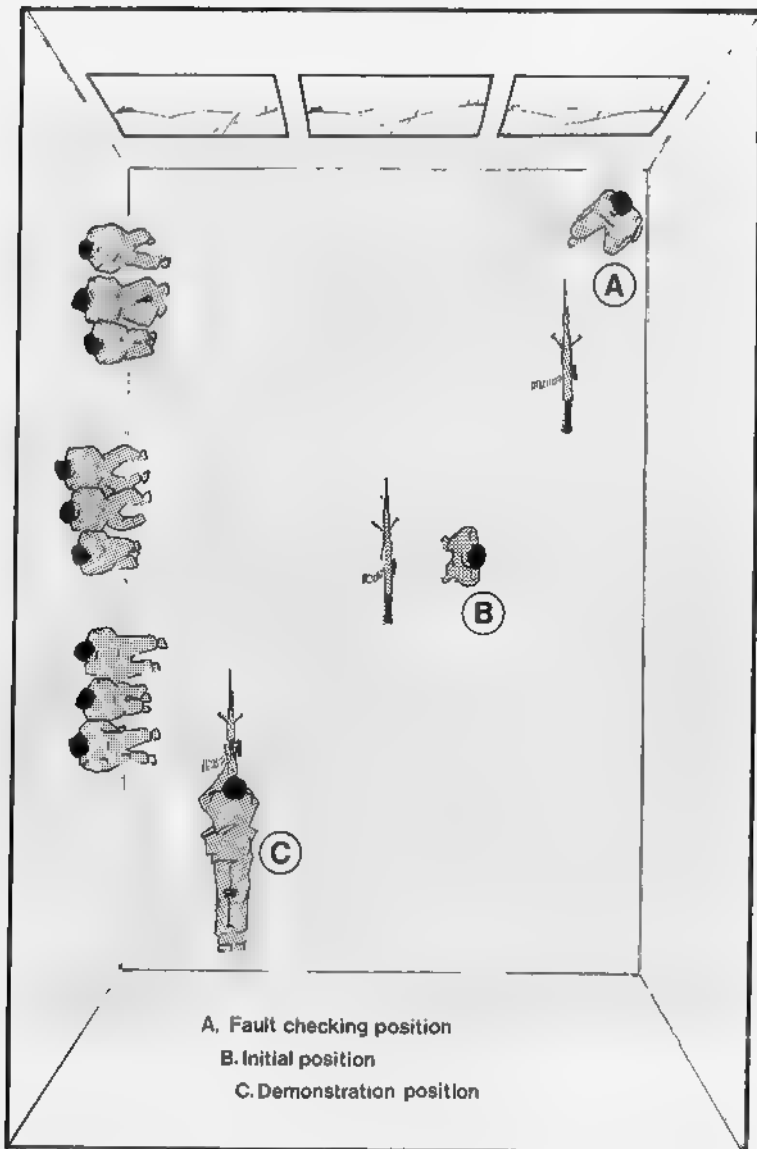

Fig. 7.—Layout of stores and weapons (common to most basic and practice periods)
- b. *Lay out guns and spare parts wallets (SPW) facing the landscape targets. (See Fig. 7.)*